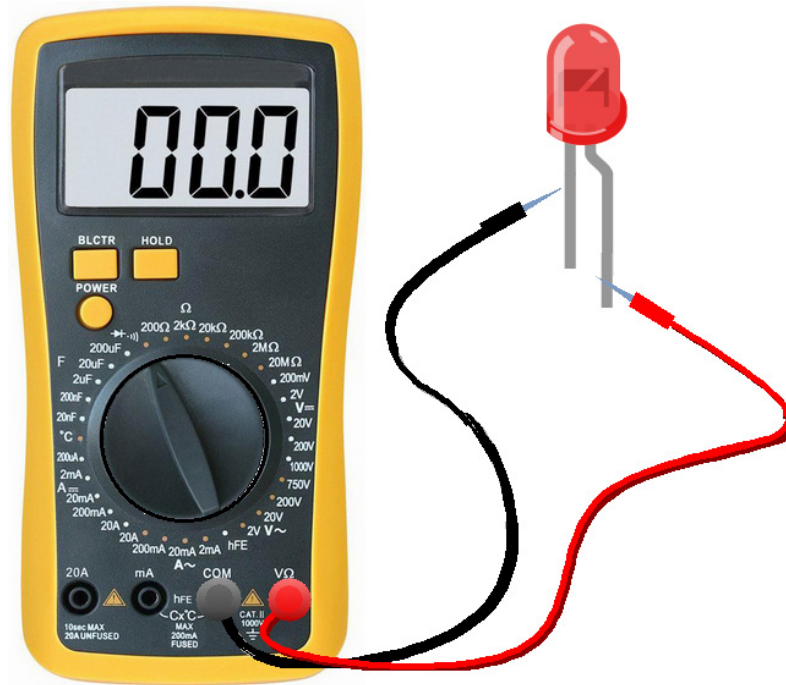

Figure 5-32: Figure: Testing LED using digital multimeter set in diode check
1. Set the digital multimeter on the continuity mode. If you touch the testing leads to each other the multimeter will give a continuous beep sound. The beep sound means that the multimeter is working perfectly. Testing leads should be plugged into the multimeter as shown in the figure 5-32.